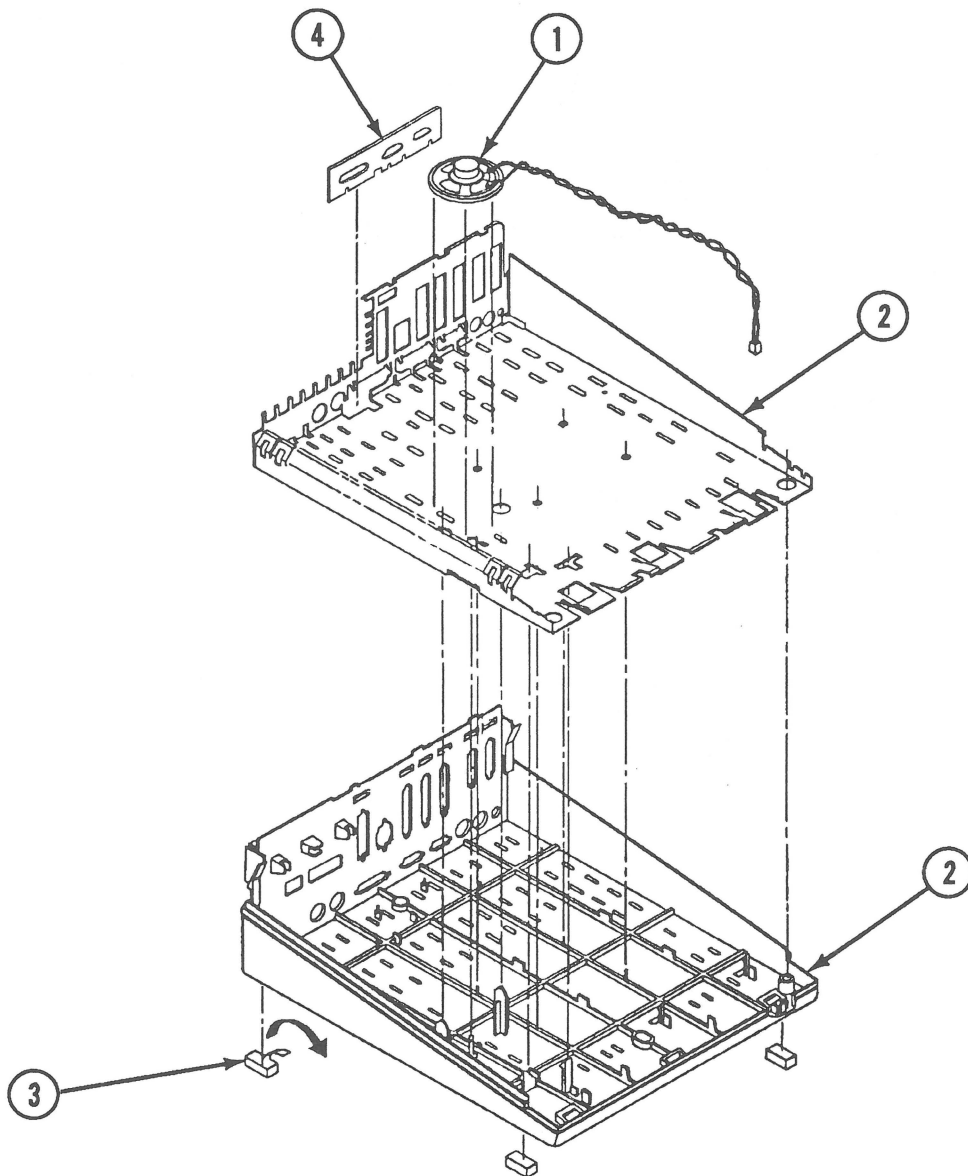

FIGURE 2
□ APPLE IIGS – BASE ASSEMBLY (Figure 2)